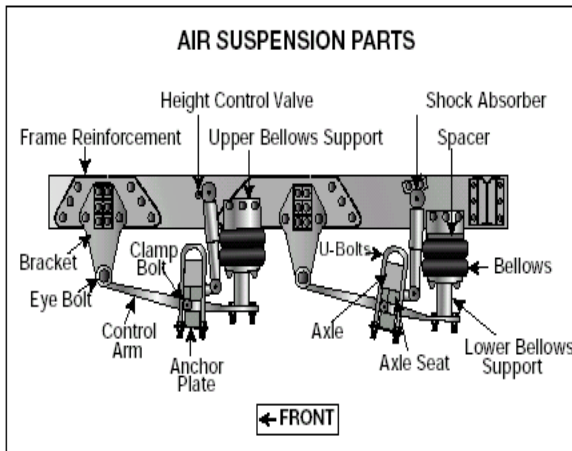

Figure 2.4
- Air suspension systems that are damaged and/or leaking. **See Figure 2.4.**